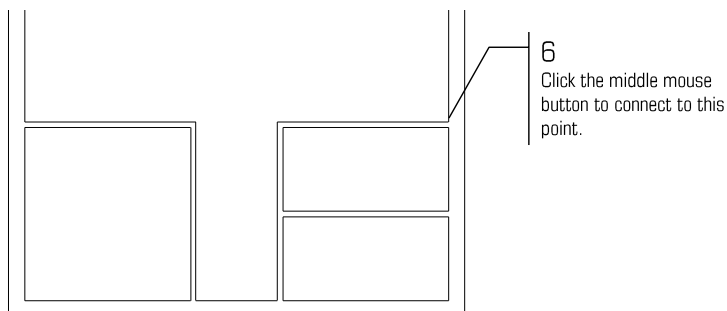

Figure 3.28: Selecting the starting point of the countertop
5. Move the cursor to the corner marked 6 in Figure 3.28 and click the middle mouse button to select it as your first reference point.